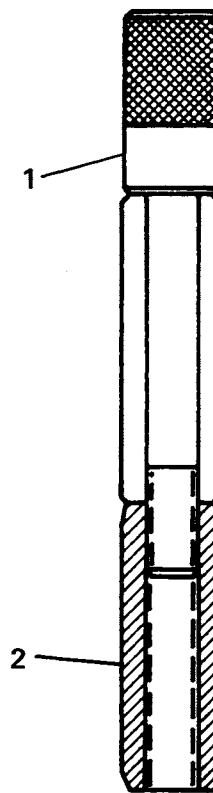

FIGURE 23. PISTON PIN MANDREL
a. Slide the tool carrier (5) between the two piston bores with the cutting edge of the tool towards the bore to be chamfered.
b. Screw inserting mandrel (1), fitted with dummy pin (4), into the tool carrier.
e. Slide the new piston pin over the fitting mandrel (1) (Figure 23).
f. Screw locating plug (2) into place (without tightening it).